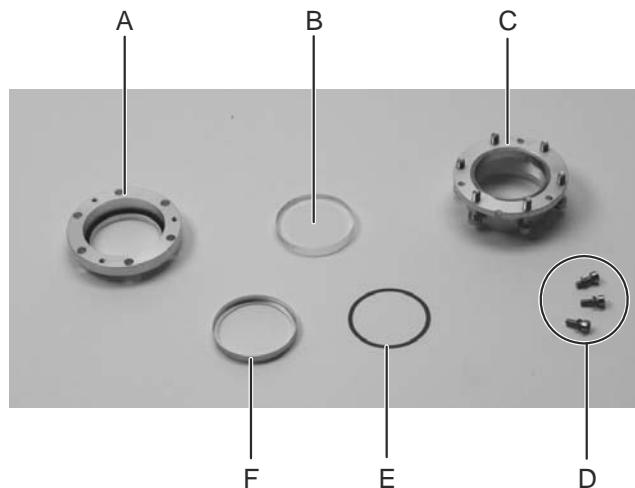

Figure 93: Disassembled resonator optics mount
3. Remove the mirror (see Figure 93, B) and spacer (E) from the collar (F). If the mirror and spacer are stuck in the collar, gently apply pressure with a piece of lens cleaning tissue to separate them.